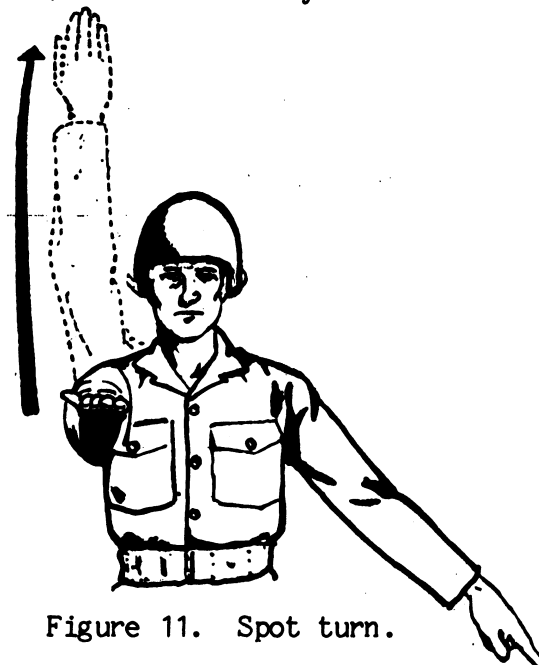

Figure 11. Spot turn.
k. To indicate a spot turn, move left or right hand upward and backward from a horizontal position to indicate direction of tail movement; other hand pointing to center of spot turn (fig. 11). You must stay in full view of the pilot.